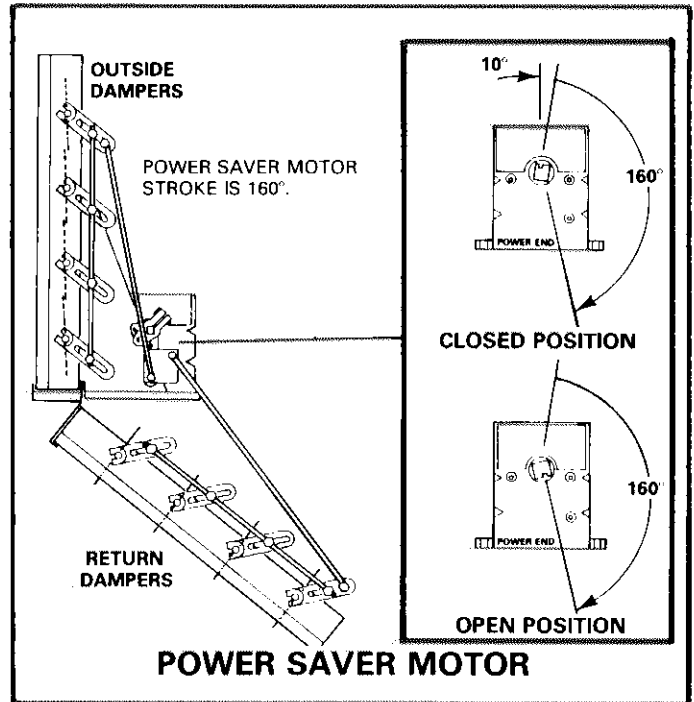

FIGURE 16
- 3 - The power saver motor includes a spring return feature which closes motor on a power failure. The motor stroke is 160 degrees as shown in Figure 16 and the timing is 40 seconds. With R-W terminals shorted or B leg open, the motor drives outside dampers closed. With R-B terminals shorted or W leg open, the motor drives outside dampers open.